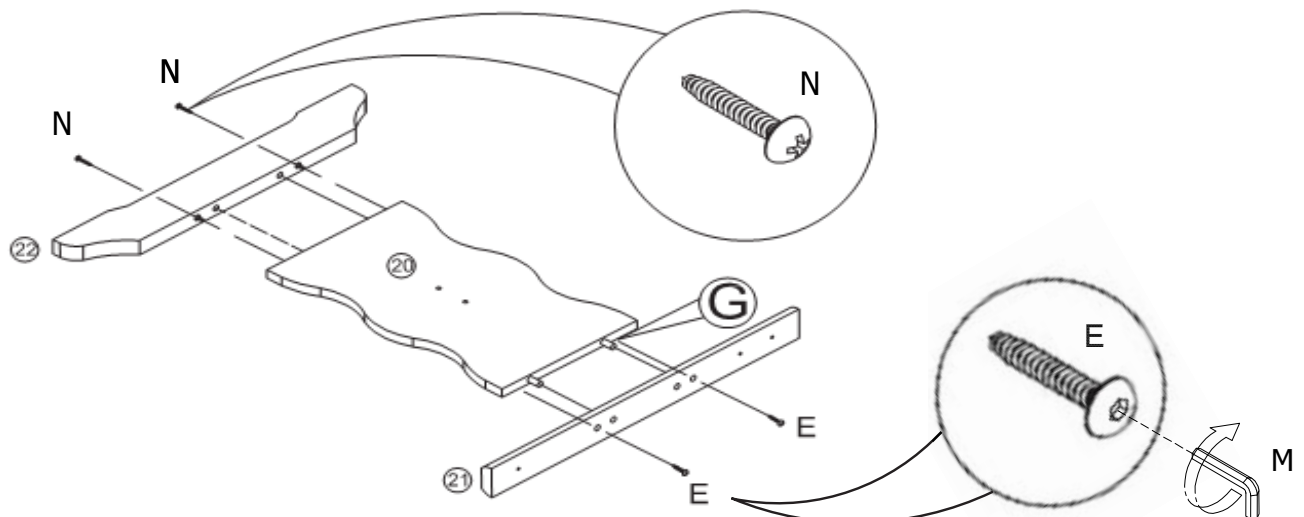

Figure 2
- Attach Table Top Support (21) and Leg Base (22) to Leg (20) completed in STEP 1 via Wood Dowels as shown in Figure 2.